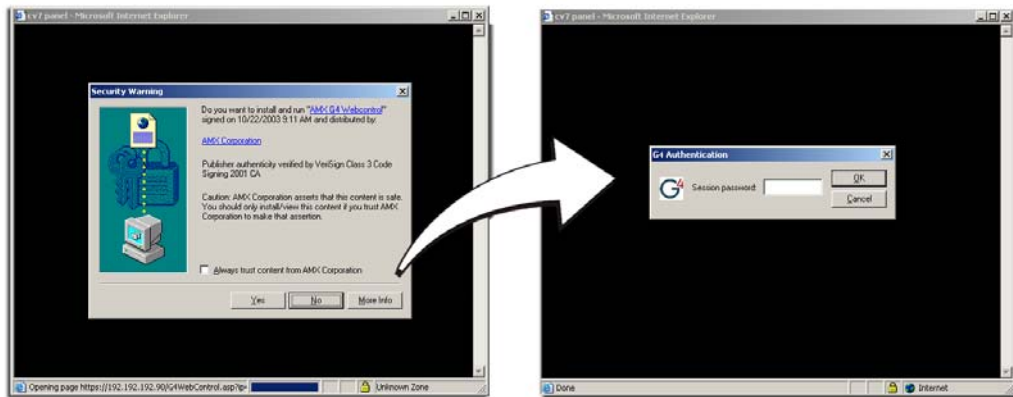

FIG. 46 Web Control VNC installation and Password entry screens
- Click on the G4 panel name link associated with the target panel. A secondary web browser window appears on the screen (FIG. 46).
10. Enter the Web Control session password into the *Session Password* field (FIG. 46). *This password was previously entered into the Web Control Password field within the G4 Web Control page on the panel.*